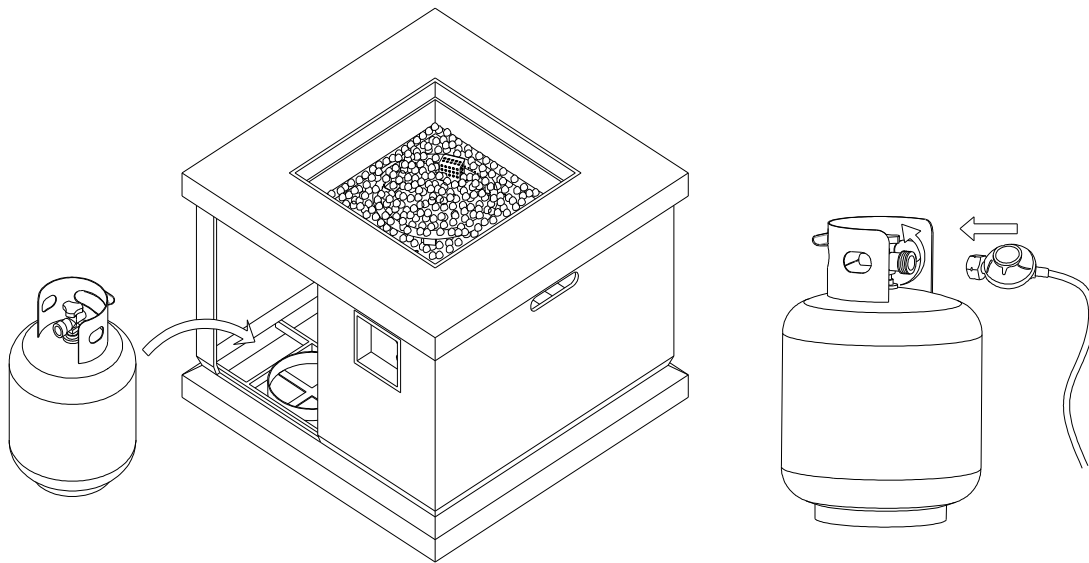

Figure 2
3. Place the gas cylinder into the gas cylinder support, connect the regulator by screwing with the manifold inlet fitting counterclockwise to tighten, turn the manifold inlet fitting clockwise to loosen or remove, see Figure 2.